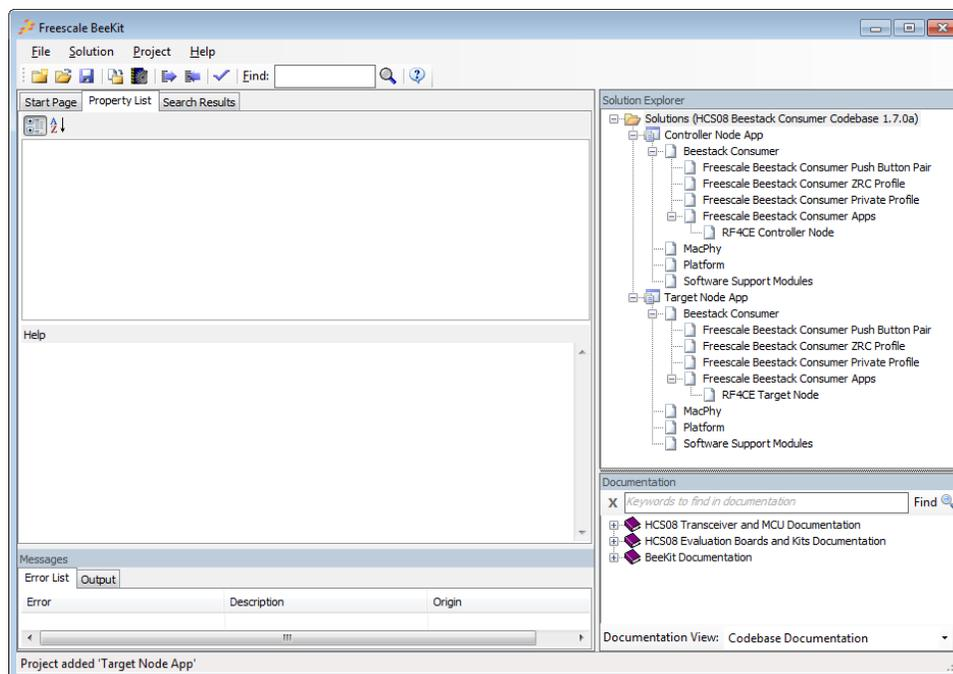

Figure 2-13. BeeKit Main Window
5. After selecting Finish for the target node application, the BeeKit main window appears as shown in Figure 2-13.